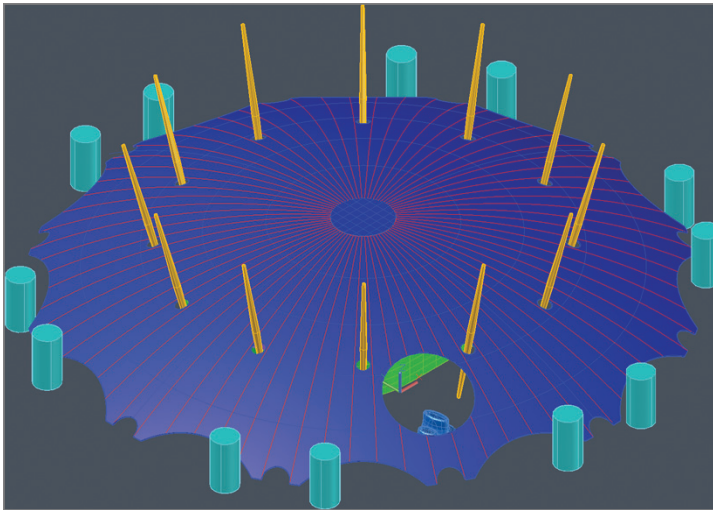

FIGURE 17.31 Completed O2 Arena 3D conceptual model
6. Hover the cursor over the Layer Properties Manager's title bar to reveal the palette. Thaw the Cables layer, toggle on the Arena and Arena Roof layers, and toggle off the Layout layer. Figure 17.31 shows the completed project.